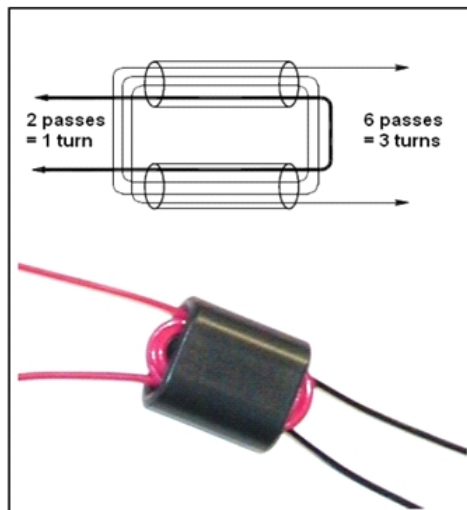
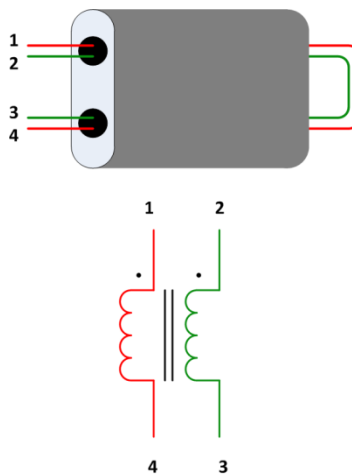

Figure 10. Transformer winding technique
Figure 15. Bifilar winding technique
- Wind T1 on the binocular ferrite core with a 5-turn primary using green magnet wire and a 5-turn secondary using red magnet wire. Refer to Figure 10 as an example of a transformer winding. The primary and secondary windings should exit from opposite ends of the core.
16. Transformer T1 consists of a center-tapped winding (10 turns total) made with a single wire. As in Figure 10, two passes form one turn. You may find it convenient, however, to make the portions of the winding above and below the tap point with separate wires. First wind 5 turns through the core and then start a second winding of 5 turns with another wire. Join the end of the first 5 turns with the beginning of the second 5 turns to form the tap point. Install and solder the three transformer connections to the PCB. The center tap goes to the middle hole on the PCB. Because of the symmetry of the tapped transformer, it does not matter which ends of the transformer go to the outer holes.
18. Transformers T2, T3, are T4 are wound as bifilar transformers. Figure 15 shows the bifilar winding technique. Take two wires (shown as red and green in the figure) in parallel and wind them through the binocular core, keeping them together as though they were a single wire. As in Figure 10, two passes form one turn.
19. Wind T2 and T3 as 7 bifilar turns. Assuming you use red and green wires for each winding, as shown in Figure 15, the red and green wires will each make 7 complete turns through the core. The mounting holes on the PCB for T2 and T3 are labelled R, G, G, R. Solder the two red wires through the R holes and the two green wires through the G holes.
20. Wind T4 as 6 bifilar turns. Assuming you use red and green wires for each winding, as shown in Figure 15, the red and green wires will each make 6 complete turns through the core. The mounting holes on the PCB for T4 are labelled R, G, G, R. Solder the two red wires through the R holes and the two green wires through the G holes.